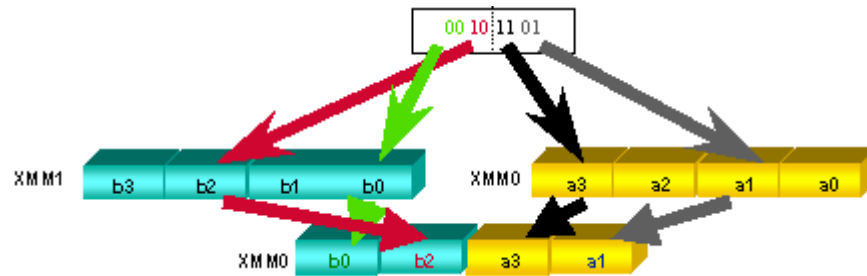

Figure 5: Shuffle Example
- 1) Convert SIMD-FP data into SIMD-INT data. Assume the following components are arranged in the registers as described in figure 5.
We then shuffle the data using the `shufps` instruction. The shuffle instructions use a one byte immediate, where the high and low order nibbles correspond to the two low and two high elements in the destination register, each two bits are then used to identify which element in the source register to move to that location in the destination register. The best way to understand the functionality is through an example. If we were to take the instruction `shufps xmm0, xmm1, 0x2D`, we would achieve the result in figure 5.